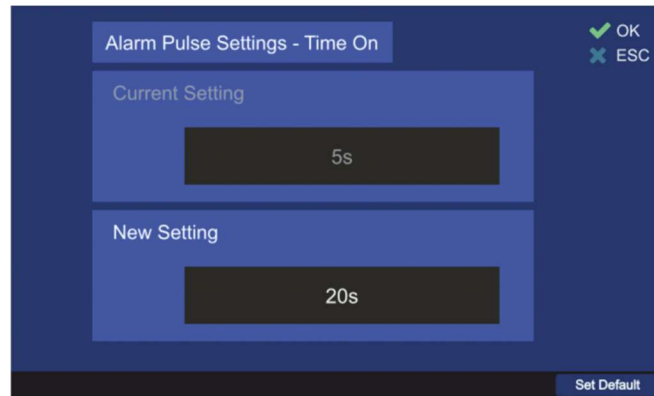

Figure 116. Time on Dialog
- To change the "Time On"- time, press the hotkey "Edit Value". The related dialog will open (s. Figure 116).